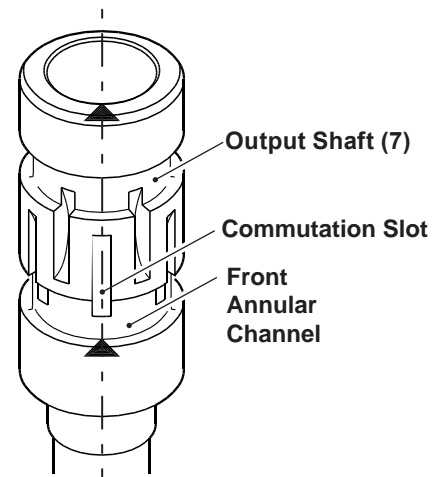

Figure 8, Output Shaft
4. The rear of the output shaft (7) must be marked before fitted into motor housing (9). The mark must be positioned vertically above a commutation slot leading up to the front annular channel. See figure 8.